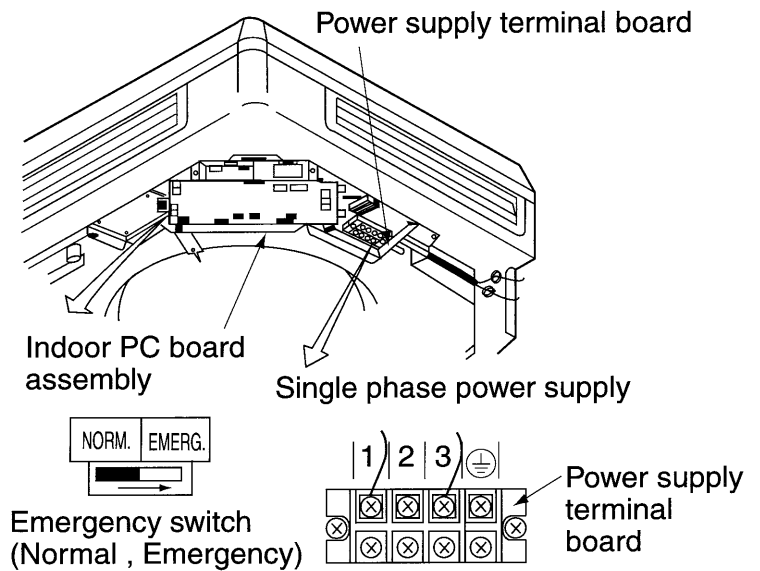

Fig. 30
- Remove the control box lid and change the emergency switch above the PC board assembly of the indoor unit from “NORM.” to “EMERG.”. Connect the single-phase power supply to connections No. 1 and No. 3 on the power supply (50Hz 220-240V) terminal board and confirm drain operation. Be sure to change the switch before turning on the power. **(Refer to Fig. 30)**